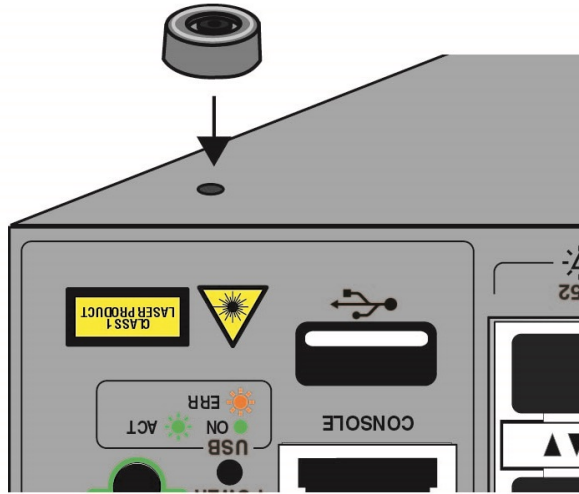

Figure 80. Placing the Bumper Foot on a Base Corner Hole
3. Place the bumper foot onto one of the holes in the base of the switch. Refer to Figure 80.